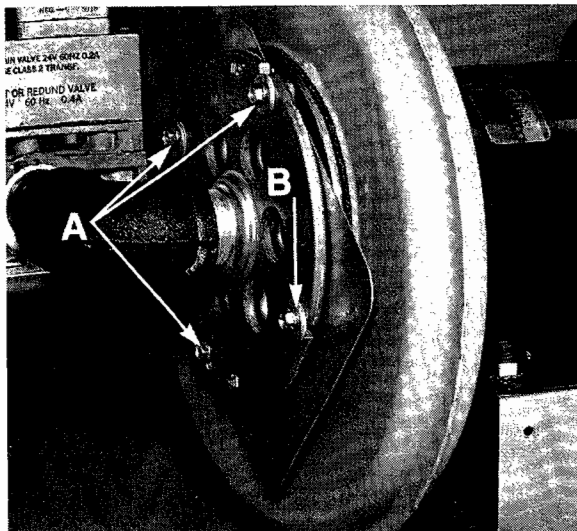

FIGURE 35
1. Loosen screws A (3) with 1/4" box or open end wrench. (Fig. 35)